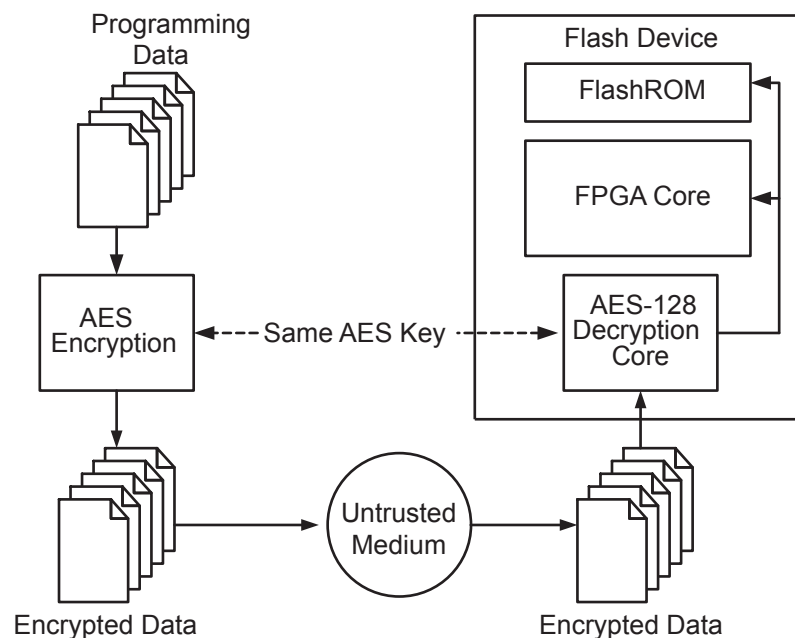

Figure 8-5 • Programming FlashROM Using AES
Low power flash devices with AES-based security allow for secure remote field updates over public networks such as the Internet, and ensure that valuable intellectual property (IP) remains out of the hands of IP thieves. Figure 8-5 shows this flow diagram.